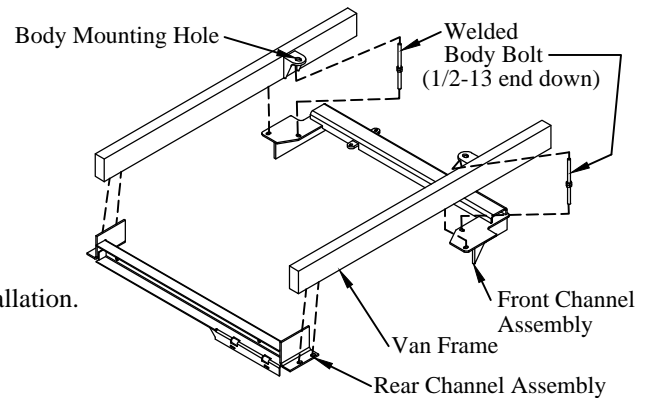

Figure 8: Rear channel assembly location.
- 5. Replace** the factory body bolts with the supplied welded body bolts (Figure 8). Use the factory nuts/washers on the top-side (under the floor mat).
- 6. Install** the front channel assembly on the van frame (Figure 8). Use the two (2) installed welded body bolts with 1/2" flat washers, lock washers, and nuts on the under-side. Use two (2) supplied M12 bolts, flat washers, and lock washers.
- 7. Install** the rear channel assembly on the rear of the van frame (Figure 8). Use the four (4) supplied M12 bolts, flat washers, and lock washers.